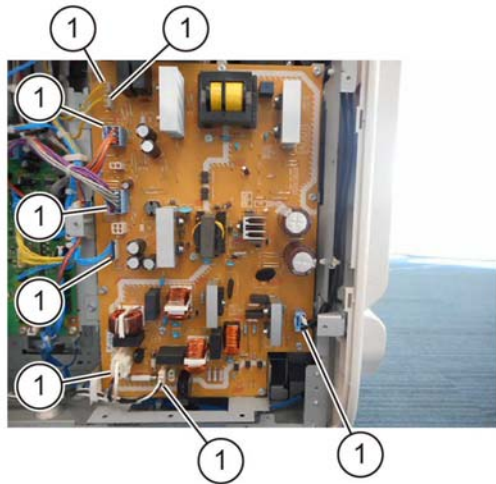

Figure 2 Connectors
3. Disconnect all connectors from the LVPS, Figure 2.